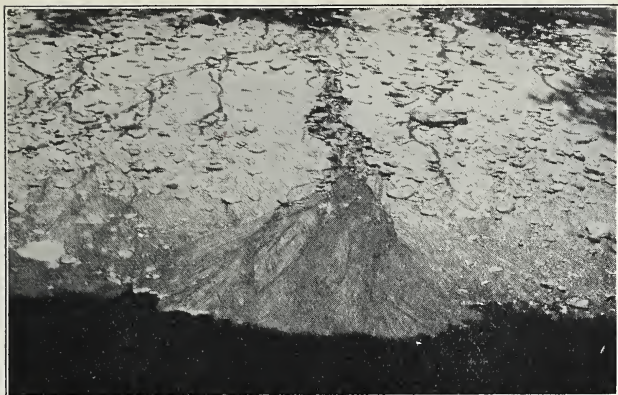

Fig. 496. What made this little fan-shaped deposit of mud at the foot of the small gully?
**How streams build land.** You have probably seen a fan-shaped spread of mud at the foot of a rain gully (Fig. 496).